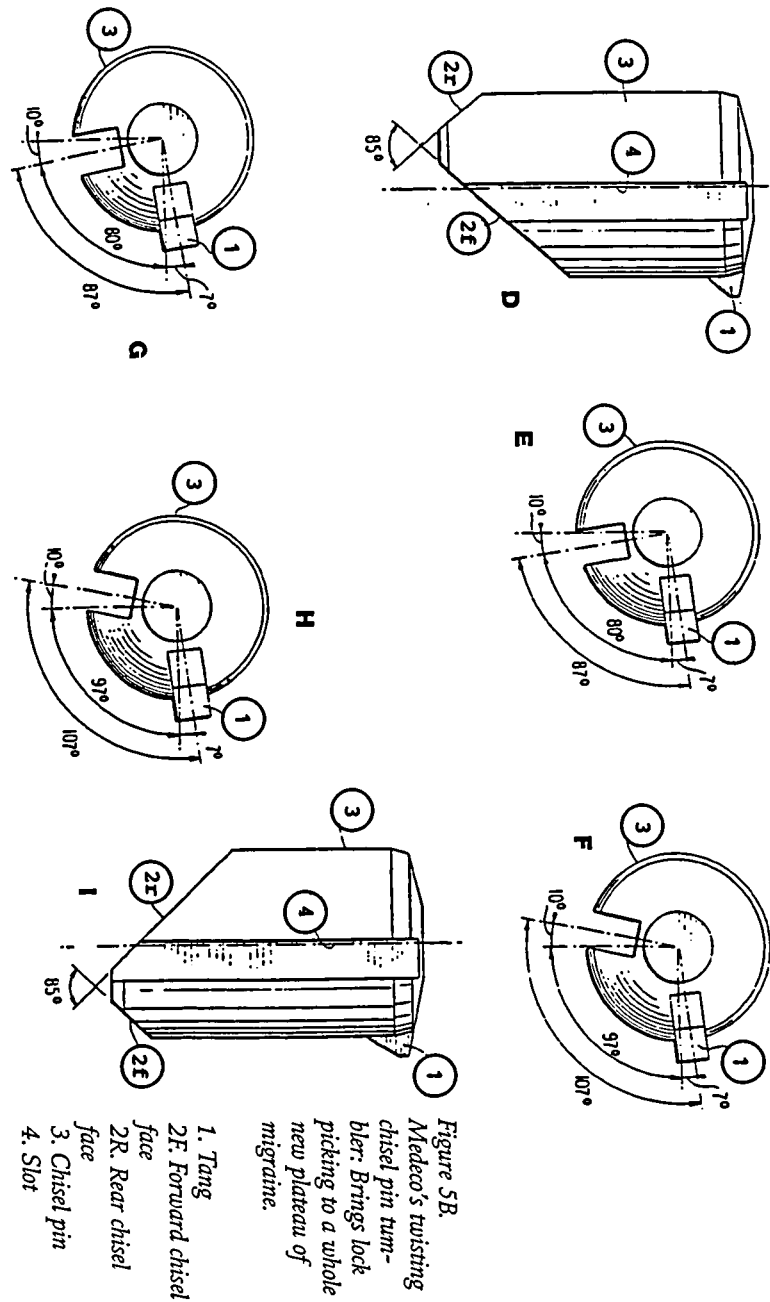

Figure 5B.
Now owned by the ASSA/Abloy Group, no single lock company has had such an impact on modern security. The rotating pin or "twisting tumbler" concept patented (#4,635,455) by inventor Roy N. Oliver for Medeco Security Locks was designed to increase the number of key changes, thus improving security. In the process, he also created a more pick-resistant lock, as each tumbler must be positioned exactly for its groove (or hole) to align with the lock's side-bar rails or posts. Moreover, the chiseled pointed pins can rotate either forward or in reverse by up to 20 degrees on each side, with either left- or right-handed pins. See Figure 5B to view the skewed cuts on the key control where these pins align their slots (Figure 5B, #4) with the side-bar in addition to the standard rising of the pins to a breaking shear line with the cylinder. The tang (Figure 5B, #1) on each pin rides a broached slot² in the pin chamber of the plug and limits total rotation or spin of each tumbler in each direction (forward or reverse) by 20 degrees. The key (Figure 5A, item c) can be cut skewed by either 10 or 20 degrees in either direction or straight across perpendicular with the bit in any variation on the blank. Here, a key is shown with six cuts for a six-pin Medeco lock. As of this printing, this is the highest number of pins any Medeco may have.
- rear offset long chisel face (shown as item 3d in Figure 5A and item d in Figure 5B)
- rear offset short (item 3e)
- forward offset long (3b and item i in Figure 5B)